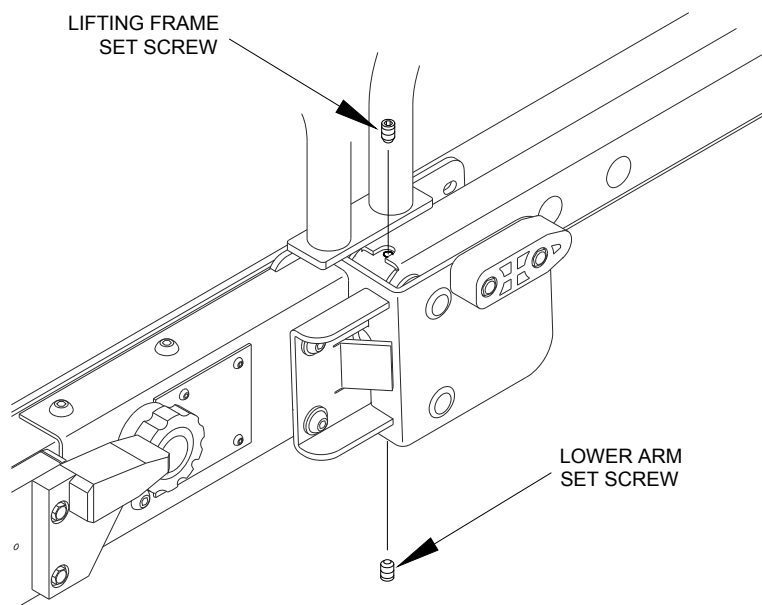

FIGURE 4-31: LIFTING FRAME AND LOWER ARM SET SCREWS
- b. Refer to **Figure 4-31**. Remove lifting frame and lower arm set screws at left and right sides of platform.